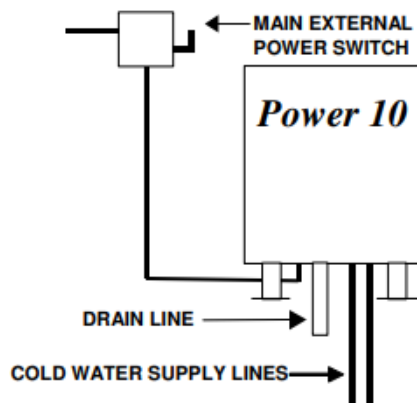

Figure 5-1
4. Refer to the main external power switch in Figure 5-1 and turn on electric power to the steamer. The steam generators will immediately start blowdown cycles. The blowdown cycle lasts 3 minutes (Find Chapter 6 “Shutdown and Cleaning procedure” for blowdown cycle).